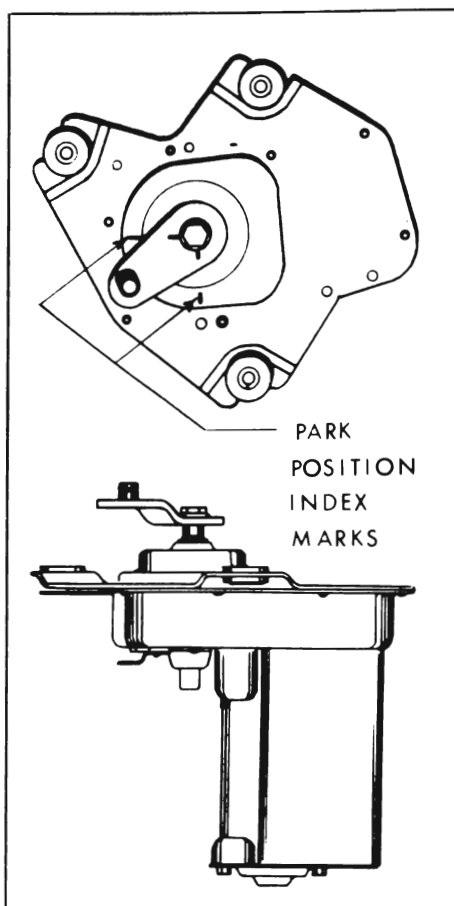
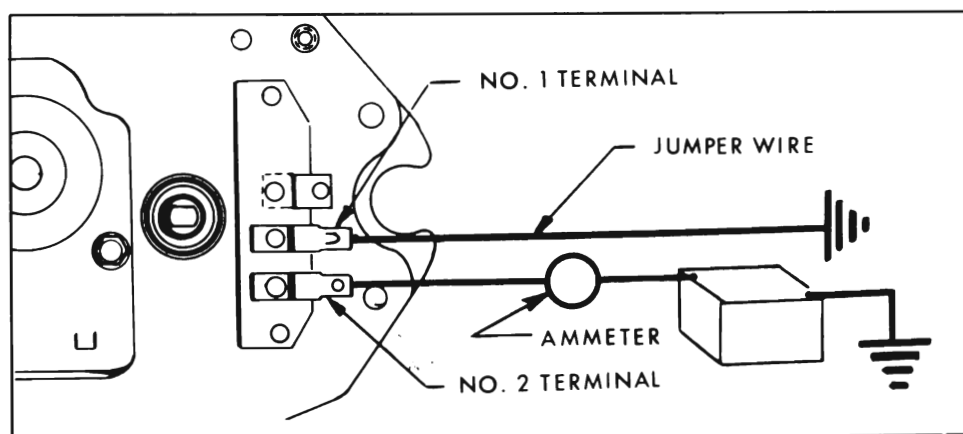
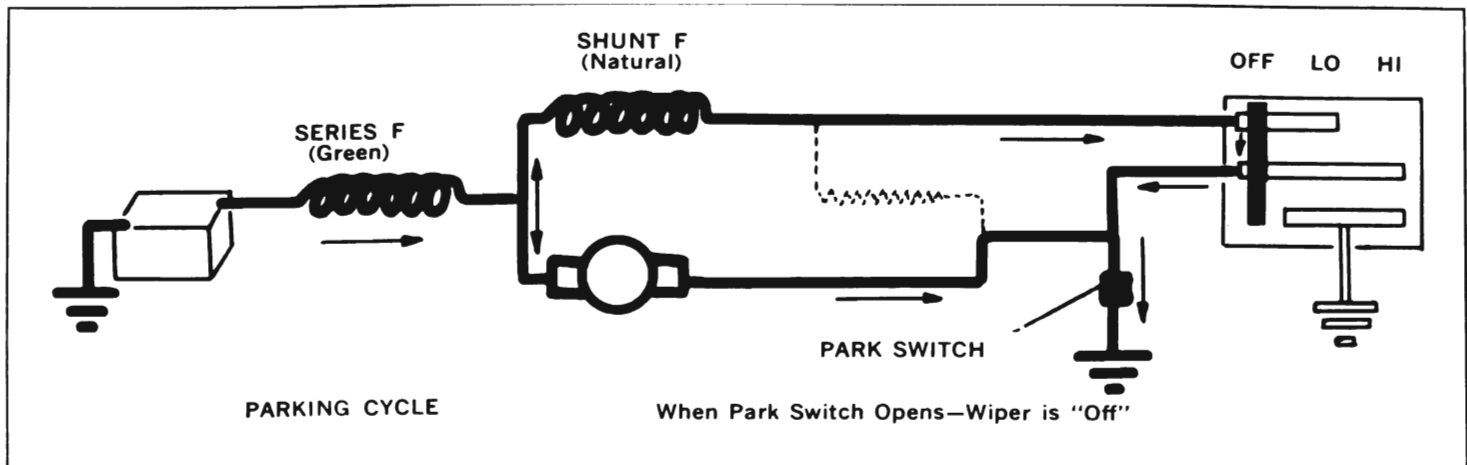

Figure 10-87—Park Position of Crank Arm
Figure 10-89—Connections to Operate Wiper Out of Car
Figure 10-98—Parking Circuit
When the car owner shuts the wiper "off" at the dash switch, the motor circuit to ground is opened at the dash. However, the parking switch contacts, which are normally closed, maintain the motor circuit to ground at the wiper. This allows the wiper to keep operating until the blades or wiper crank arm reach the park position (Blades approx. 2" above windshield molding). (Figure 10-87 shows the crank arm in park position.) At the same time the blades reach the park position, a cam on the output gear opens the park switch contacts. This opens the motor circuit to ground, stopping the motor. Thus, the park switch actually controls wiper operation only during that short period of time, after the owner turns the wiper "off" at the dash switch but before the wiper has completely stopped.
Figure 10-89 shows the proper method of connecting jumperleads to the wiper so that it can be operated independently of the dash switch or car wiring for test purposes. (NOTE: Specification table at end of this section lists current draw data.)
connects to wiper terminal No. 2, Figure 10-89. No voltage indicates defective car wiring. **CAUTION: DO NOT connect hot line to No. 1 terminal.**
(c) Connect 12 volt supply to No. 2 wiper terminal and connect a jumper wire from terminal No. 1 to ground (Figure 10-89). If wiper operates, the dash switch or wiring between dash switch and wiper is defective.
(b) If wiper still operates, disconnect wiring from wiper and connect 12 volt supply direct to wiper terminal No. 2 (Figure 10-89). **DO NOT** connect any jumper wire to terminal No. 1.
Connect a 12 volt supply and an ammeter to wiper as shown in Figure 10-89 and observe current draw and wiper operation.
is removed from wiper terminal No. 1 (Figure 10-89).
(b) Check for grounded condition in the internal motor lead that connects to terminal No. 1, Figure 10-89.
Wiper crank arm stops rotating immediately when jumper wire is disconnected from wiper terminal No. 1 (Figure 10-89). **NOTE:** Crank arm should continue to rotate until park position is reached (Figure 10-87).
2. Reassembly of Crank Arm - Operate wiper to park position (Figure 10-89) and install crank arm on output shaft in the position shown in Figure 10-87. Clamp crank in vise before securing the retaining nut.
When the cam on the wiper output gear opens the park switch contacts, the wiper is "off" and the blades and/or wiper crank arm should be in the park position. See Figure 10-87 which shows a typical crank arm in park position. See Figure 10-98.